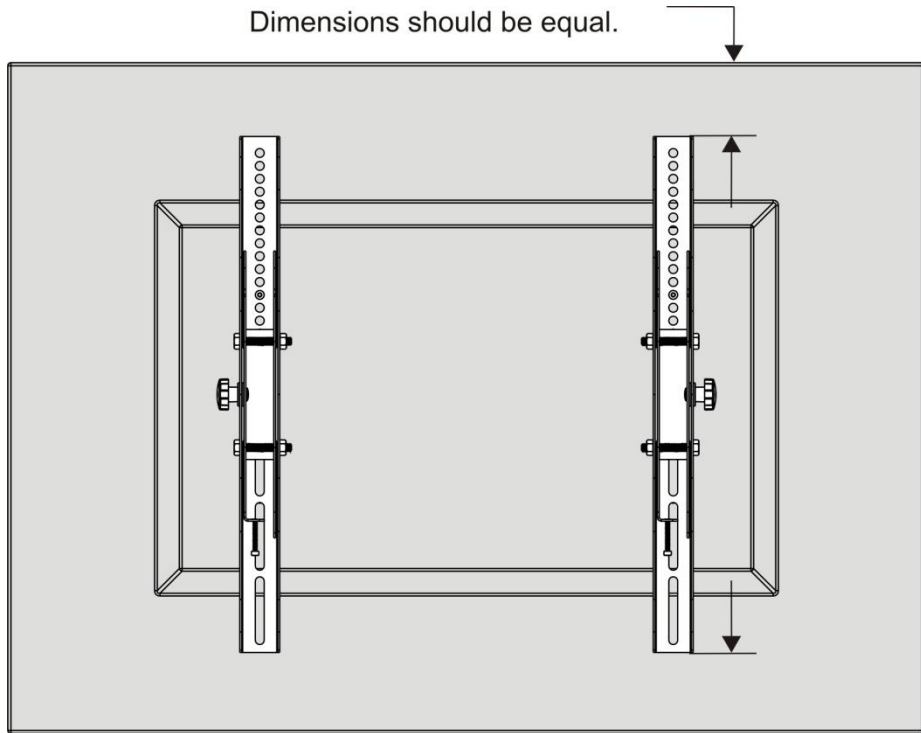

Fig. 5
- Place the TV screen face side down. Place the adapter brackets on the back of the screen, align the holes and center them on the back of the screen, as shown in Fig. 5.